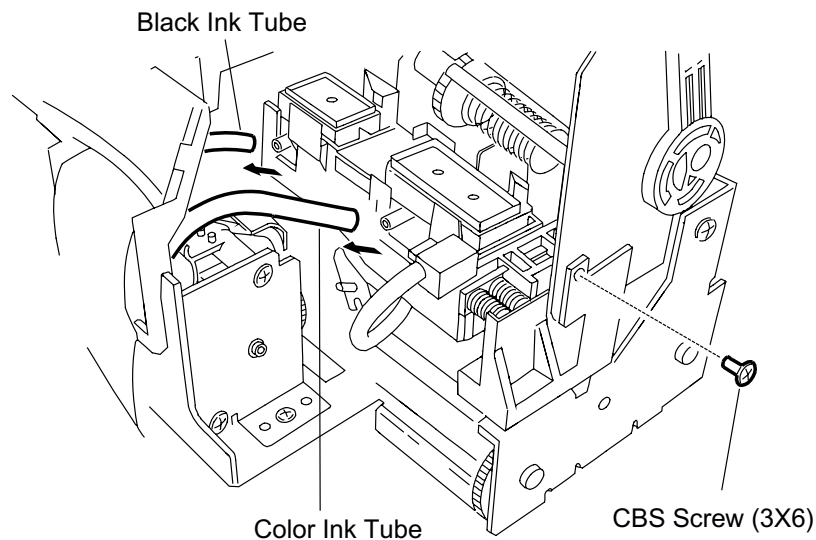

Figure 3-39. Tube Removal
4. Remove both tubes from the black and color caps carefully. (See Figure 3-39.)